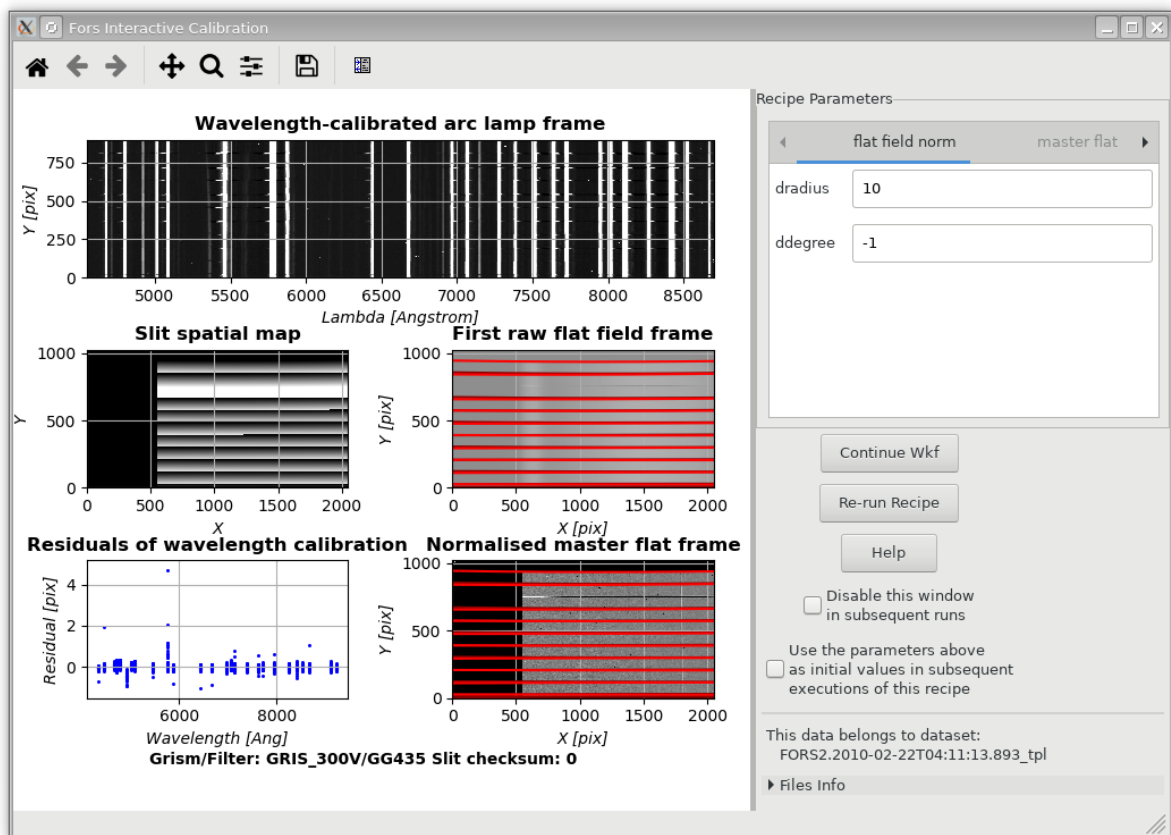

Figure 9.2: The interactive window of the ForsPMOSCalib actor for the PMOS calibrations of the first demo DataSet..
The interactive window shown in Fig. 9.2 (p. 38) provides information about the quality of the wavelength calibration (top row and bottom left plot), and the flat field combination and normalization (central row, bottom right plot). The plots contain in detail:
**Center Left** *Spatial map* The spatial map has as pixel values the distance of a pixel from the bottom of the respective slitlet. The regions of the slitlets should not be strongly curved nor should regions of different slitlets overlap with each other. Because all MOS slitlets have similar length the spatial map should show a similar gradient for all, which is not the case for the third slitlets from the top in Fig. 9.2. See Sect. 9.6 on how to fix such a problem.
**Center Right** *First raw flat* This plot is mostly of interest in comparison to the **Bottom Right** one, as the number of slitlets and the areas covered by them should be identical. The red lines show the traces of the slitlet edges. They should therefore follow the slit edges and not cut across slitlets. All slitlets should be detected and there should be no spurious detections (e.g. one slitlet detected as several) nor should several slitlets be detected only as one (as is the case in Fig. 9.2, see Sect. 9.6 on how to fix such a problem).